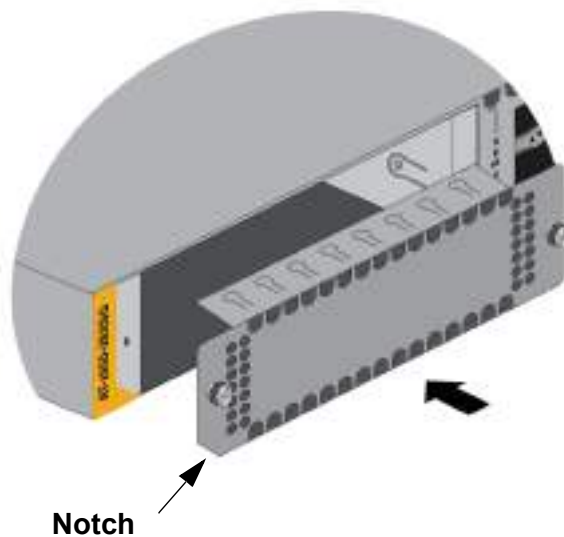

Figure 126. Installing the Line Card Blank Cover
9. Orient the blank cover as shown in Figure 126, with the notch on the bottom left, and slid it into the slot.